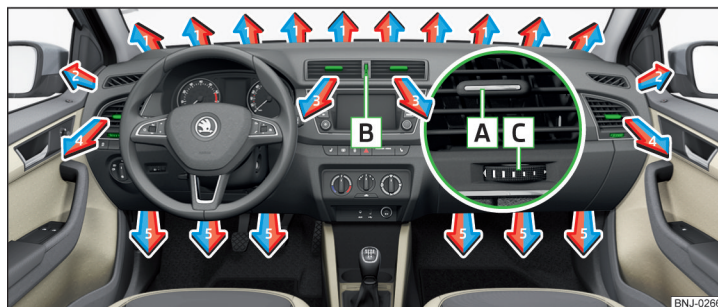

Fig. 113 Air outlet vents
The direction of airflow can be adjusted using the air outlet vents **3, 4** » Fig. 113, the outlets can be opened and closed individually.
The setting of the airflow direction is carried out by moving the adjustment element **A** » Fig. 113 or in the desired direction.
- Turn the regulator **B** upwards » Fig. 113.
- Turn the regulator **B** downwards » Fig. 113.
Set the direction of the air outlet	Air outlet vents » Fig. 113